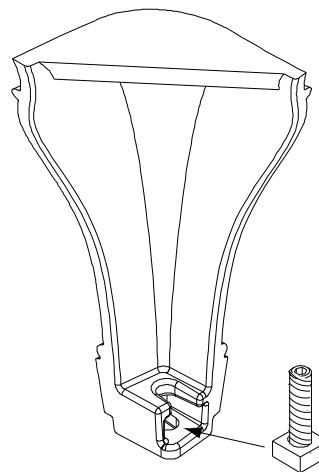

Figure 25.3
9. Slide Allen bolt/nut assemblies into slots of two of the legs with the nuts on the bottom (**Figure 25.3 and 25.4**).